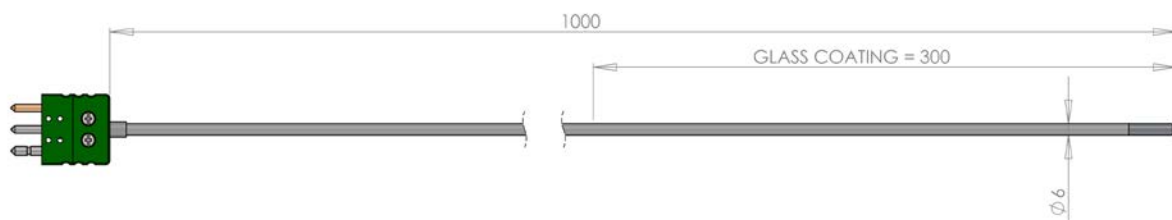

Figure 6: Mini probe (dimensions are in mm)
The Mini probe is fitted with green 3 pin connector and consists of a length of Mineral Insulated (MI) metal cable with a glass coating to protect against molten aluminium (Figure 6). There are no gas connections to the Mini probe.